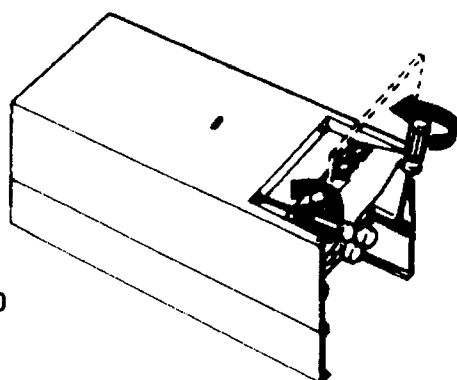

Fig. 10
5.3.1 Remove 4 screws securing the lower part of the casing to the case frame. (Fig. 10)